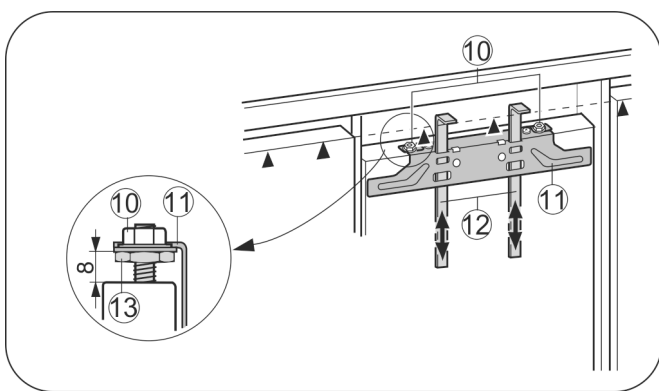

Fig. 20
- Raise the fitting aids Fig. 20 (12) to unit door height. Bottom stop edge of ▲the fitting aid = top edge of the unit door to be fitted.
- Unscrew the crosspiece Fig. 20 (11) by undoing the locknuts Fig. 20 (10).